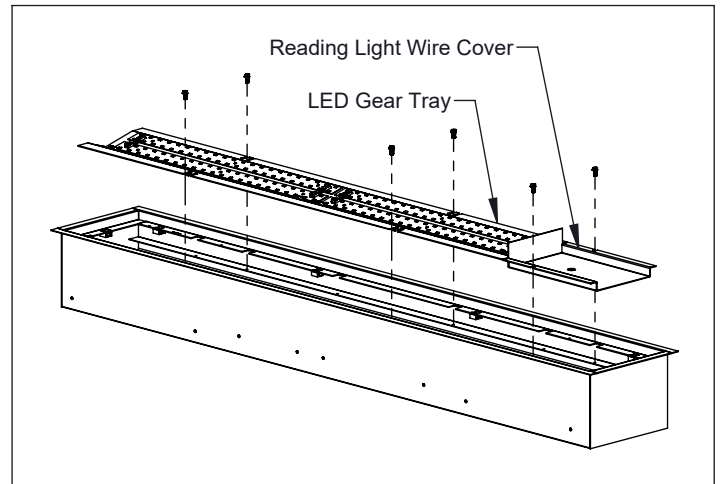

Figure 2
2. Remove screws from (2) wire covers to detach from housing. (Fig. 2)